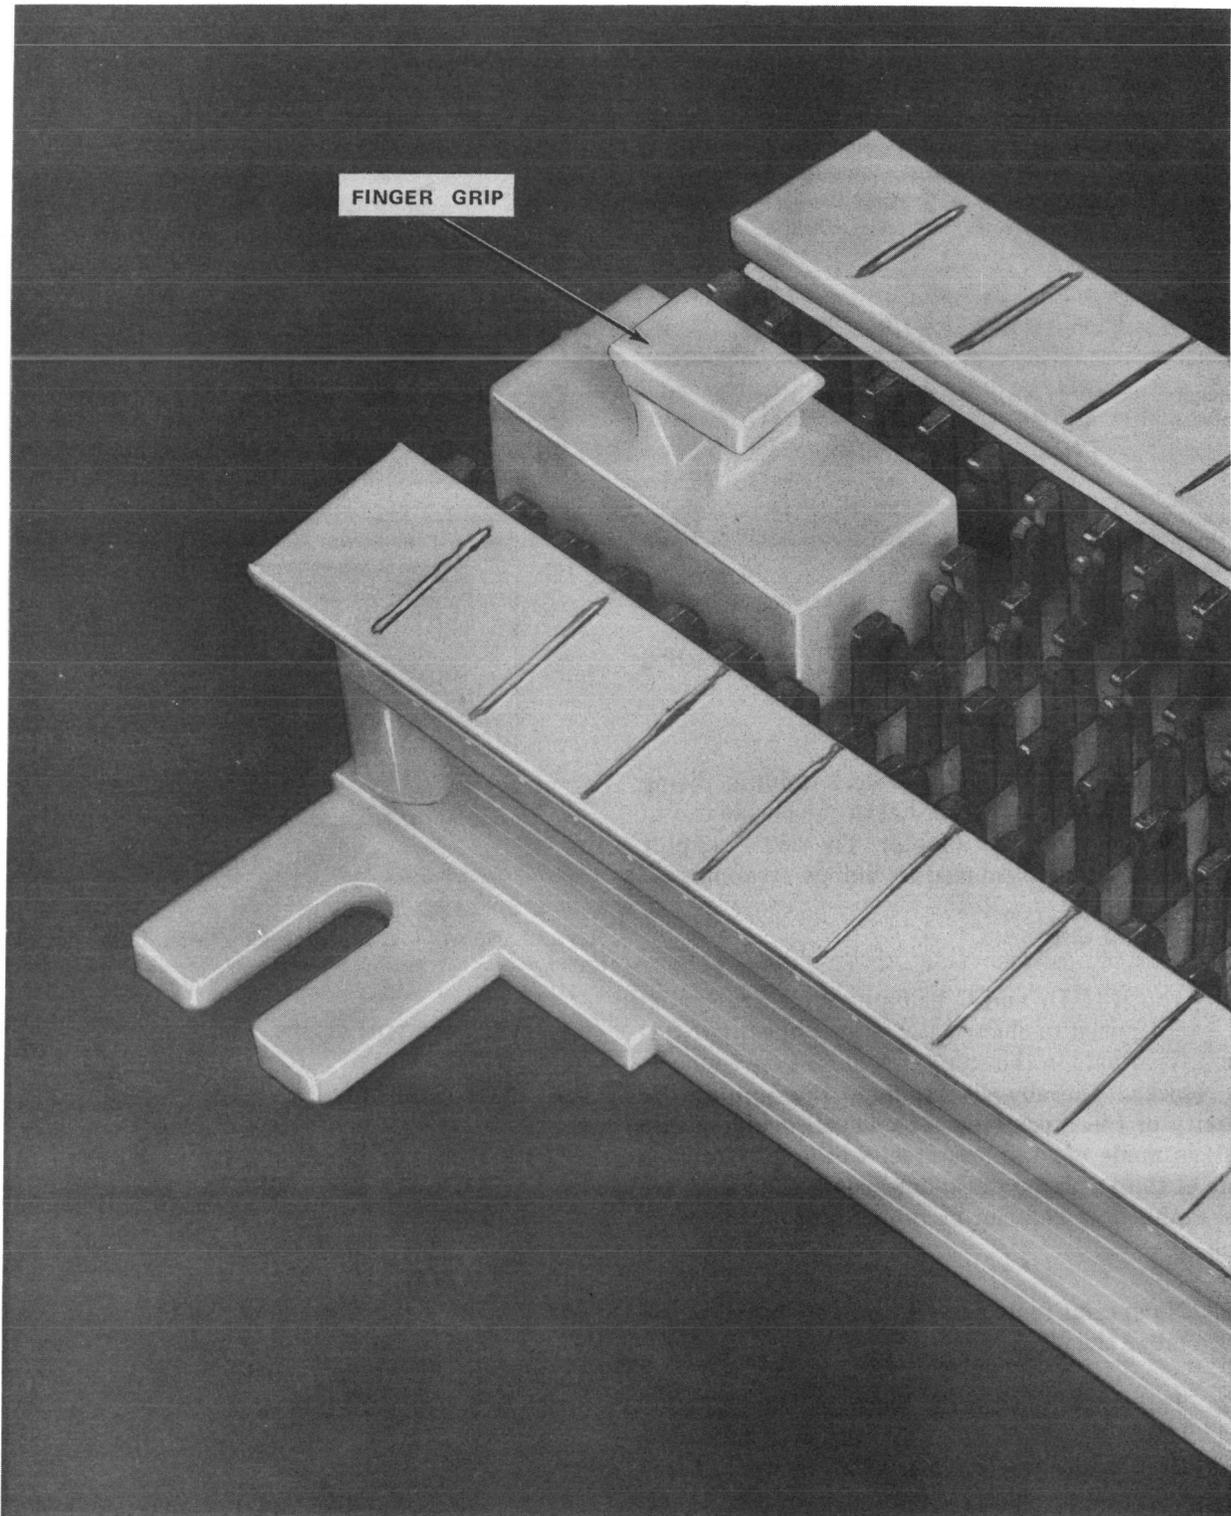

Fig. 18—3-Pair Modular C Bridging Clip on 66M-Type Connecting Block
5.03 The 3-pair modular C bridging clip, AT-8596 (Fig. 18), is intended for use with 66M-type connecting blocks to electrically interconnect three pairs of adjacent terminals. It consists of six (6) solder plated, phosphor bronze spring clips in a plastic housing. A small finger grip for easy insertion and removal is provided.